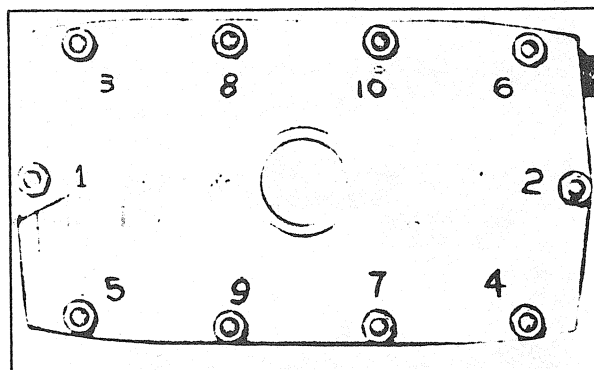

FIGURE 37
- Position the exhaust chamber on the ten (10) studs of cylinder block.
- Follow the sequence shown torquing the nuts to 10 ft/lb. (fig. 37).